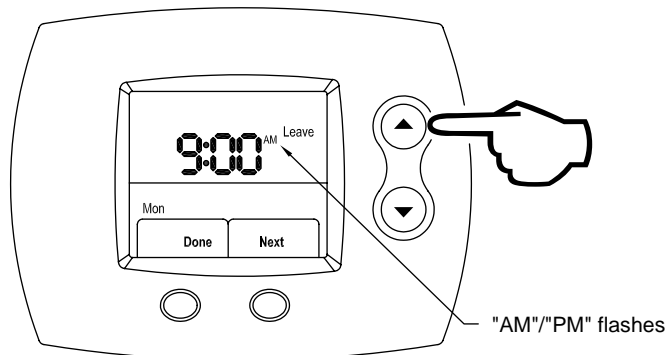

Figure 58
Step 11: Next, using the **UP** (index AM / PM) or **DOWN** (index AM / PM) buttons, select AM / PM, as shown in Figure 58.